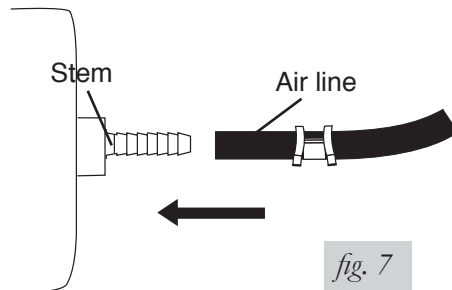

fig. 7
6. Push the air line onto the stem, covering all the barbs (fig. 7). With the pliers, slide the air line clamp upward until it fully covers the barbed section.
5. Push the air line onto the stem, covering all the barbed section (see fig. 7). With pliers slide the air line clamp forward until it fully covers barbed section.